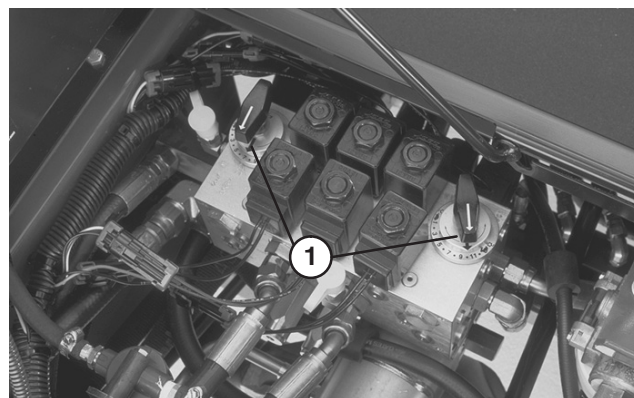

Figure 31
4. To set reel speed, rotate knobs (Fig. 31) until indicator arrows are in line with the number designating desired setting.